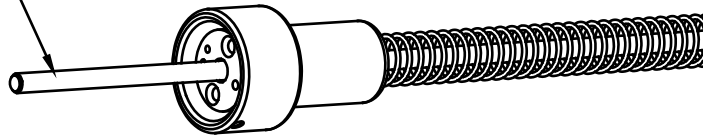

Figure 3: LSCH 0009 Di-Electric Application
4. Apply a generous amount of LSCH 0009 on the power supply end of the cable as shown in figure 3.
3. After the power supply is grounded to a suitable earth ground, the high voltage cable may be connected. Prior to connection of the high voltage cable 15 to 30 ml of 3614-00 (supplied with applicator) di-electric oil needs to be added to the power supply. Refer to figure 3 for illustration of where the oil should be inserted.